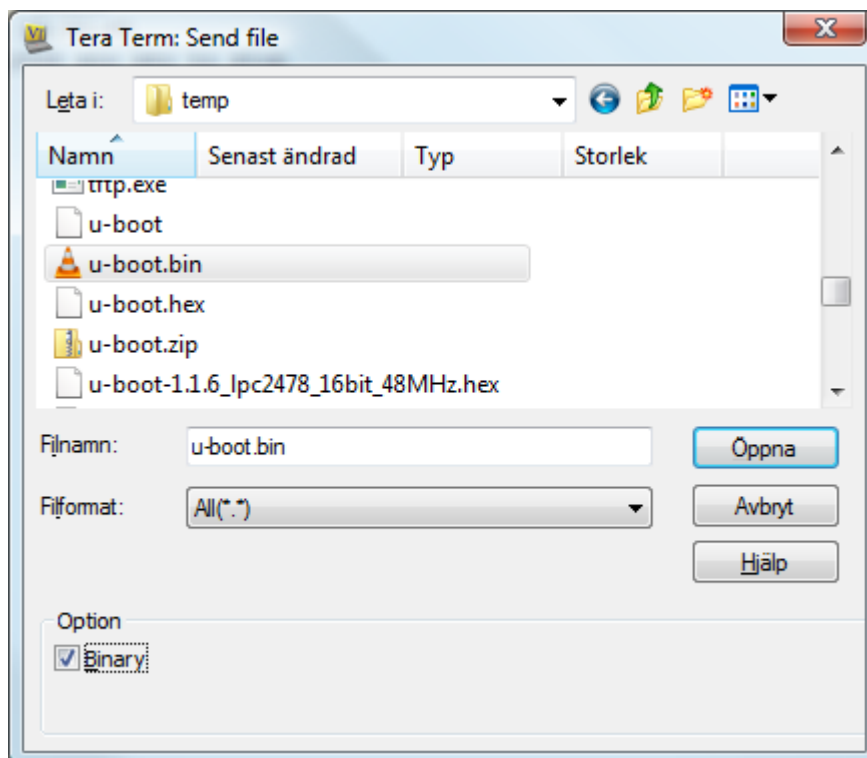
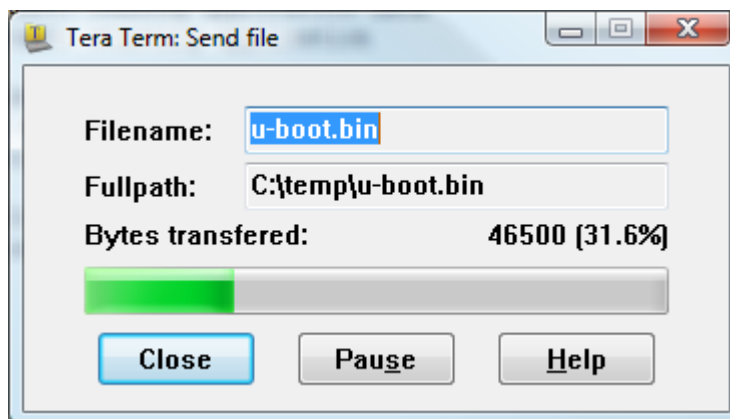

Figure 3 Send File via Tera Term
Figure 4 Transfer progress in Tera Term
3. Locate and select your u-boot.bin file. Make sure the “Binary” option is selected, see Figure 3. A dialog will appear showing the progress when you have clicked the “Open” button, see Figure 4.